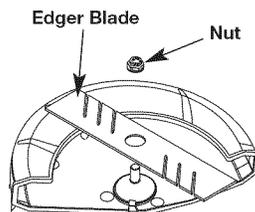

Fig. 17
4. Install the new blade and nut (Fig. 17).
**NOTE:** Make sure the blade edges are facing the proper direction (Fig. 17). The unit will not function correctly if the edger blade is installed backward.